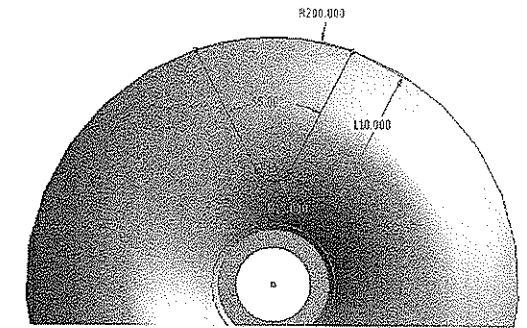

Figure 5-14 The final sketch after the dimensions are applied
11. Apply the dimensions to the sketch and edit their values, as shown in Figure 5-14.